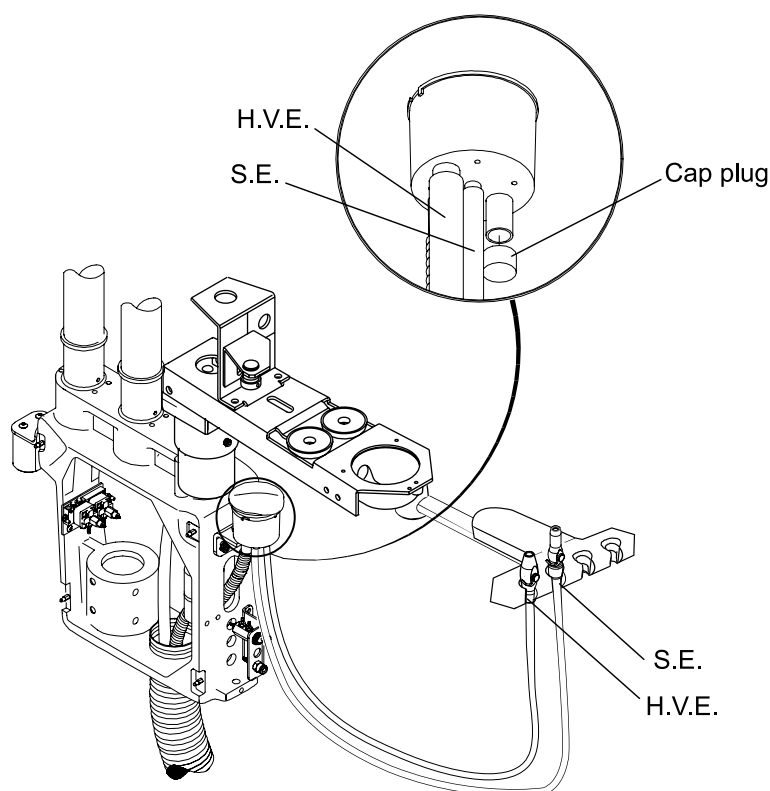

Figure 8
12. Locate and install the HVE and SE at this time. Install the vacuum utilities on the vacuum canister as shown in figure 8. Hang the vacuum utilities on the holder bar.